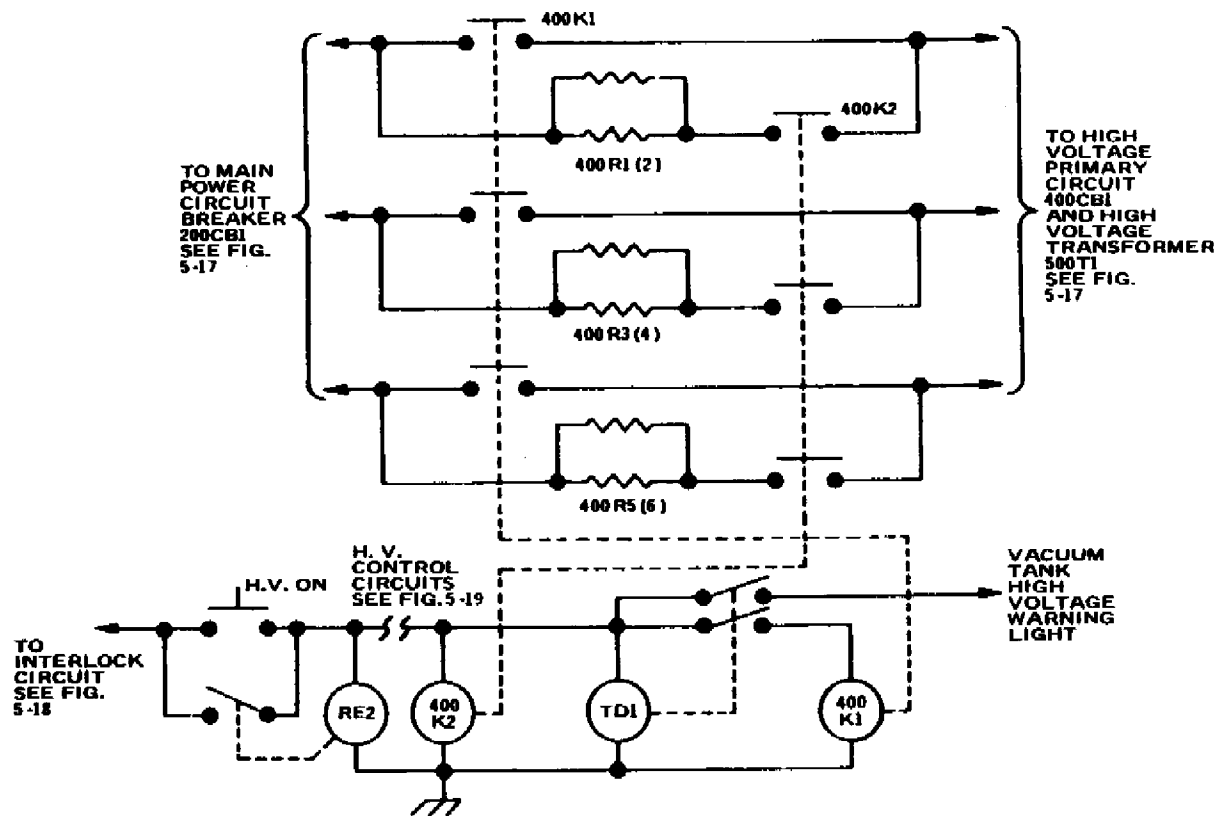

Figure 5-20. CV-8 A (drawing 506-0365 sheet 1) and CV-8 B [drawing 506-0445 sheet 1] high step-start
5.6.2 High Voltage Step-Start (Figure 5-20)